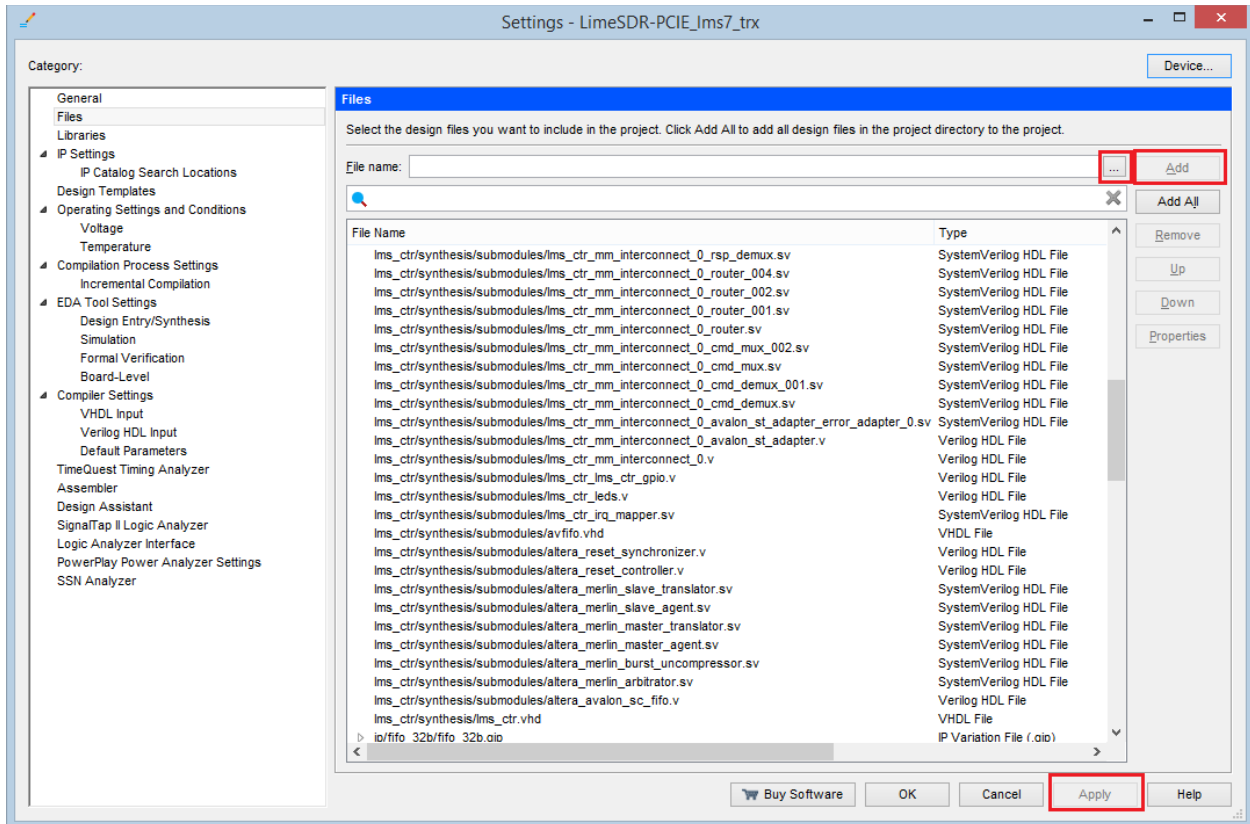

Figure 82 Adding files to Quartus project
- Open Quartus *LimeSDR-QPCIE_lms7_trx* project and select *Project* → *Add/Remove Files in Project..* and add files *xillybus.v* and *xillybus_core.qxp* to Quartus project (Figure 82).